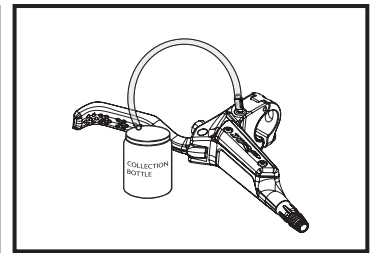

Fig 9
- If you use a bottle or bag, install 30cm supplied tube with M5 or M6 bleed bolt into the reservoir bleed port and placing the other end into a clean, dry empty bottle or plastic bag. **(Fig 9)**